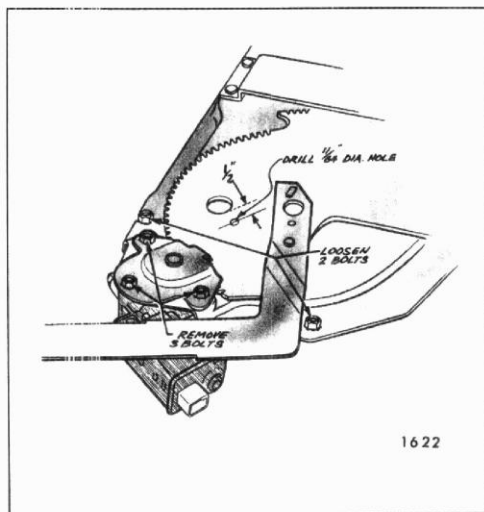

Fig. 9-7-Tail Gate Regulator Motor Assembly
4. Drill a 1/8" hole through regulator sector gear and back plate (Fig. 9-7). Do NOT drill hole closer than 1/2" to edge of sector gear or back plate. Install a pan head sheet metal tapping screw (No. 10-12 x 5/8) in drilled hole to lock sector gears in position.